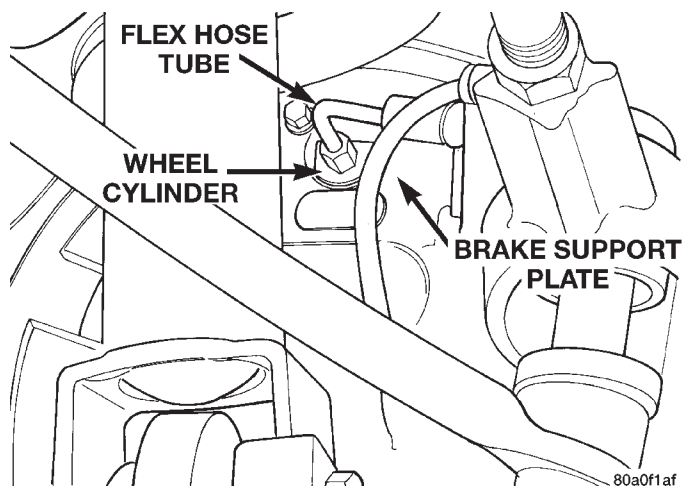

Fig. 76 Brake Flex Hose At Wheel Cylinder
(1) In case of a leak, remove brake shoes (replace if soaked with grease or brake fluid.)
(2) Disconnect rear brake flex hose tube from wheel cylinder and remove the flex hose routing bracket from the brake support plate (Fig. 76).
(3) Hand start the hydraulic brake hose tube fitting into the wheel cylinder (Fig. 76). Tighten the tube nut to a torque of 17 N·m (145 in. lbs.).
(4) Install brake shoes on support plate. Follow procedure for Installing Brake Shoe Assemblies in this section of the service manual.
(5) Install rear brake drum onto rear hub.
(6) Install the wheel and tire assembly. Tighten the wheel mounting stud nuts in proper sequence until all nuts are torqued to half specification. Then repeat the tightening sequence to the full specified torque of 129 N·m (95 ft. lbs.).
(7) Adjust the rear brakes. See Adjusting Service Brakes in Service Adjustments section in this group of the service manual.
(8) Bleed the entire brake system. See Bleeding Brake System in Service Adjustments section in this group of the service manual.